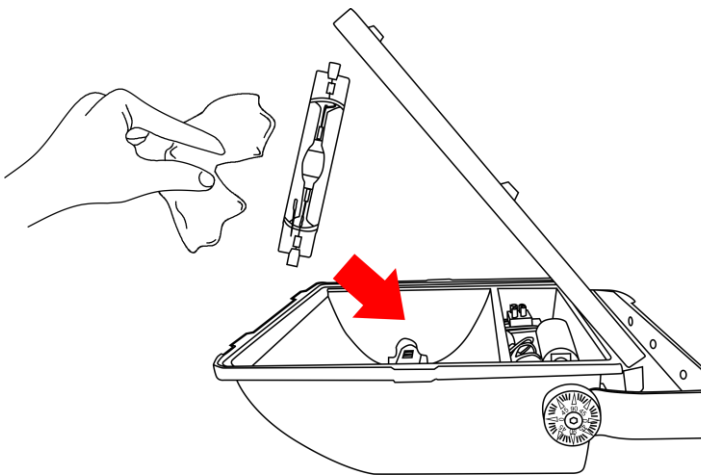

Fig. 04
- 05) Insert the lamp and fasten it to the two sockets (Fig. 04).